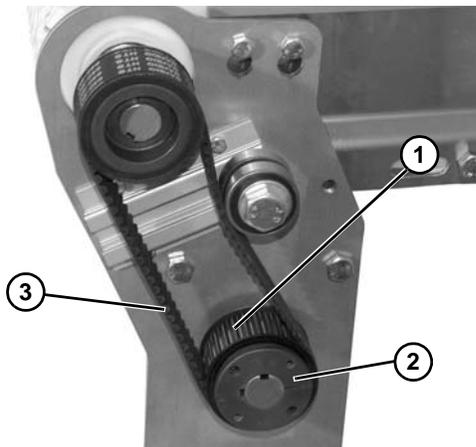

Figure 29
- Remove pulley (Figure 29, item 1), taper hub assembly (Figure 29, item 2), and timing belt (Figure 29, item 3).